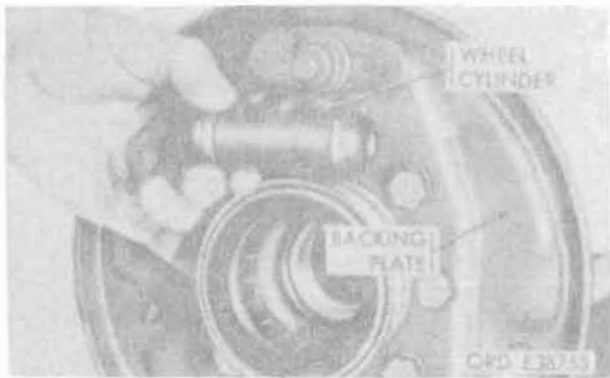

Figure 11-19. Rear wheel brake cylinder.
i. Remove two screws and washers securing wheel cylinder to backing plate. Remove wheel cylinder from backing plate (fig. 11-19).